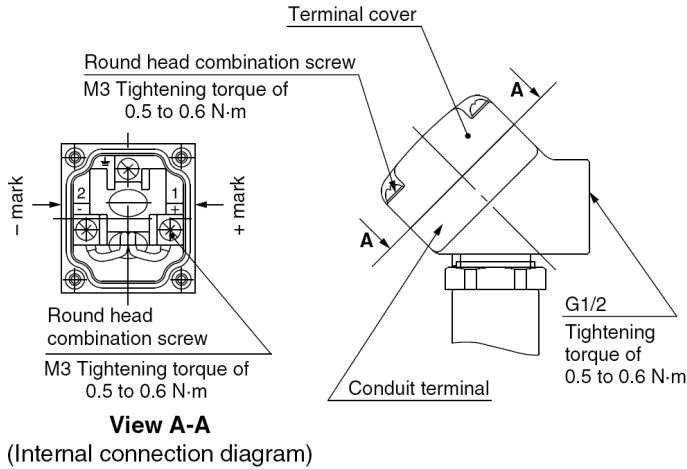

Figure 12
- Make connections according to the marking shown in Figure 12.
- Tighten screws and fittings according to Figure 12.